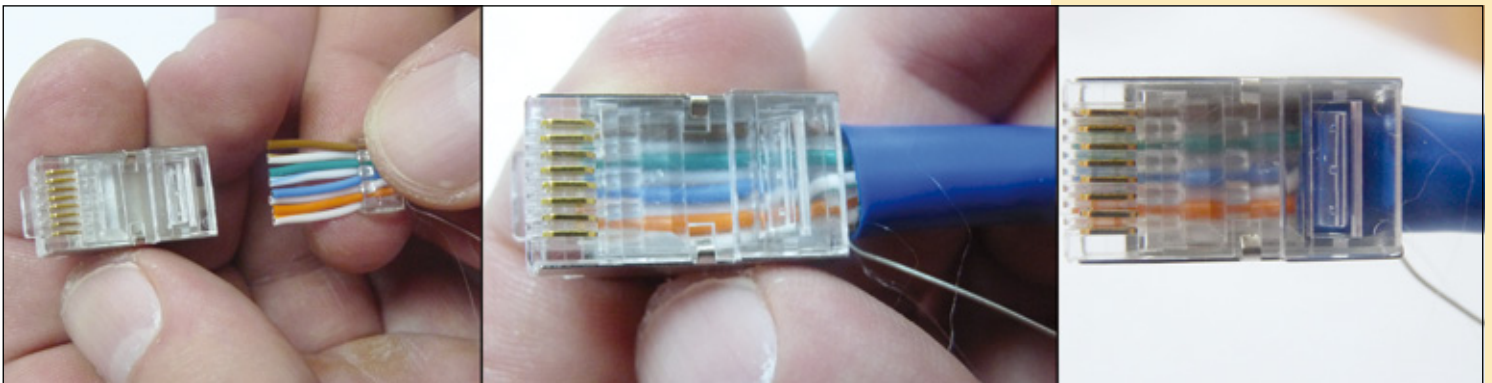

Figure 19
- 14 Insert the cable in the **Main Body** as shown in Figure 19.